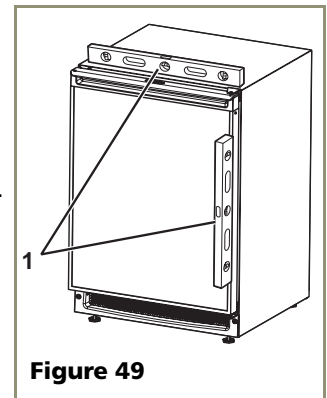

Figure 49
1. Use a level to check the levelness of the ice maker from front to back and from side to side. Level should be placed along top edge and side edge as shown (see **Figure 49**).